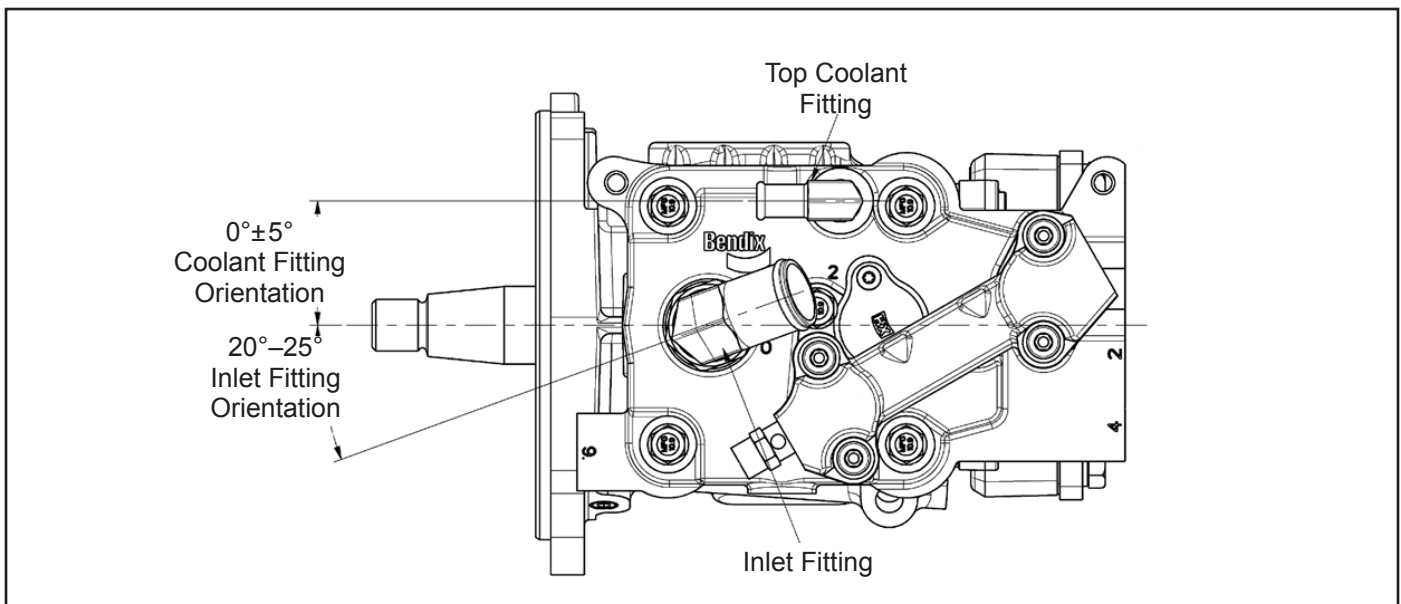

Figure 3 – Discharge Jumper Assembly
Option 1: M16 x 1.5–6g (ISO 9974) fitting. Back off the locknut as far as possible. Screw the fitting into the port until the leading surface of the locknut contacts the face of the port. Light adjusting with a wrench may be necessary. To align the tube end to the position as defined in Figure 3, unscrew the fitting by the required amount, but not more than one full turn. Using two wrenches, hold the fitting in the desired position and tighten the locknut to 319–354 in-lbs (36–39.5 Nm).
2. Next, install the inlet fitting into the inlet port of the compressor. Back off the locknut as far as possible. Make sure the back-up washer is not loose and is pushed up as far as possible. Screw the fitting into the port until the back-up washer contacts the face of the port. Light adjusting with a wrench may be necessary. To align the tube end to the position as defined in Figure 3, unscrew the fitting by the required amount, but not more than one full turn. Using two wrenches, hold the fitting in the desired position and tighten the locknut to 575–633 in-lbs (65–72 Nm).
DISCHARGE JUMPER ASSEMBLY INSTALLATION (REFER TO FIGURES 3 & 4)
3. Position the discharge jumper assembly over the cylinder head such that it lines up with the four attachment bolt holes. *Refer to Figure 3 to ensure proper orientation on the cylinder head. Note: There is only one way the discharge jumper can be installed on the cylinder head.*